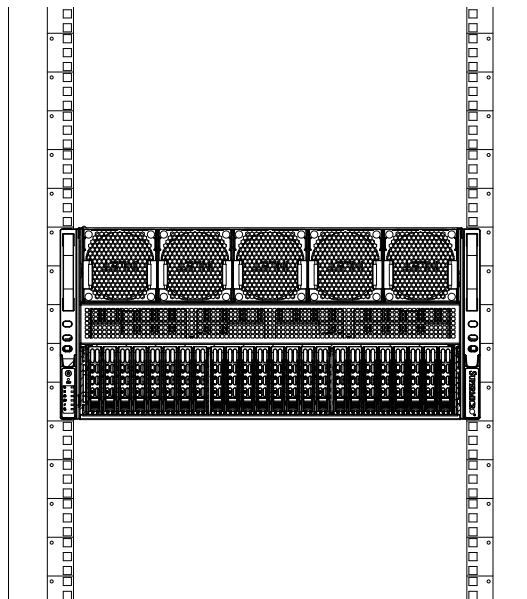

Figure 2-1. Positioning the Enclosure Template
2. Position the Chassis Template at the front of the chassis to determine the locations of the screws for the chassis rails (see Figure 2-1).